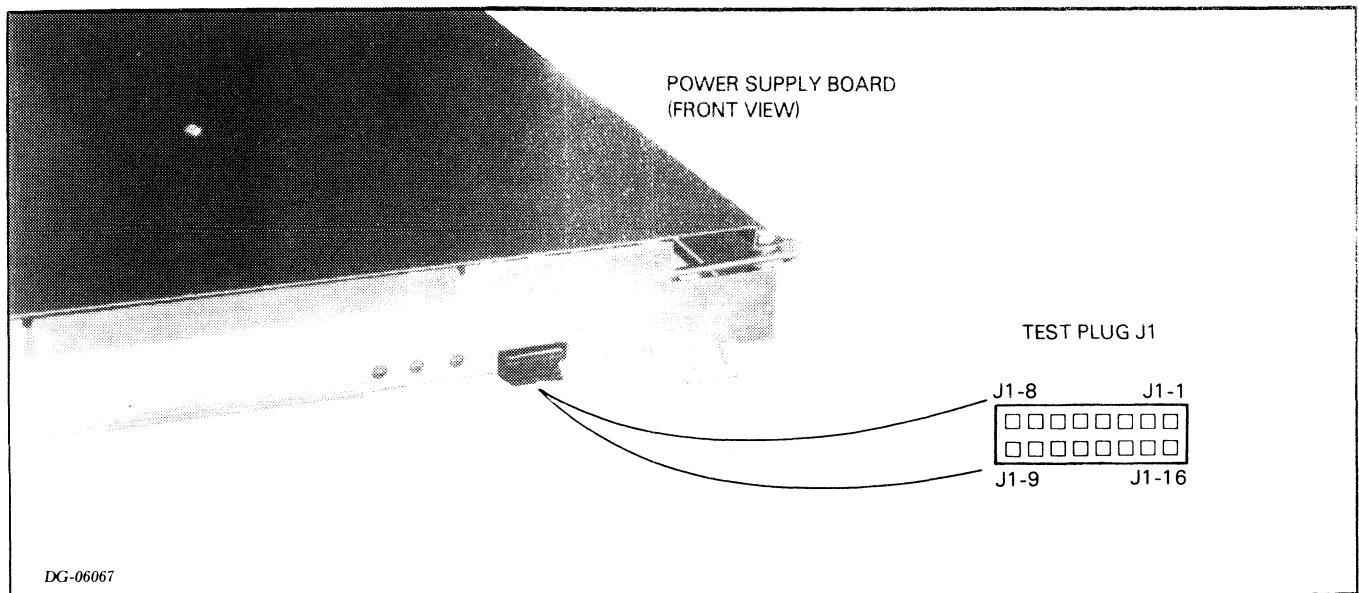

Figure 6.8 TEST PLUG
2. Check the +5V voltage at test plug J1-15 (see Figure 6.8). If +5V is between 5.10V and 5.20V, go to "Final Checkout"; otherwise, continue the checkout.
- If -11V is NOT between -11.0V and -12.5V (-30VNR not ok), check the **VREF** at test plug J1-14 (see Figure 6.8). If **VREF** is 5.8V, replace the VNR unit; otherwise, replace the power supply board.
- If -11V is between -11.0V and -12.5 (-30VNR ok), check the **HVS** voltage at test plug J1-4 (see Figure 6.8). If **HVS** is greater than 2.9V, replace the power supply board; otherwise, replace the VNR unit.
7. Recheck the +5V voltage at test plug J1-15 (see Figure 6.8). If it is between 5.10V and 5.20V, go to "Final Checkout"; otherwise, try replacing the internal cable (wiring harness). If this does not work, get help from DGC Field Service.
- Make sure the LOCK switch is in the UNLOCK position. If the fans still do not stop, check the  $\overline{\text{PWR FAIL}}$  voltage at test plug J1-3 (see Figure 6.8).
- If  $\overline{\text{PWR FAIL}}$  is less than 0.4V, check PON at test plug J1-11 (see Figure 6.8). If PON is less than 0.4V, replace the VNR unit; otherwise, replace the power supply board.